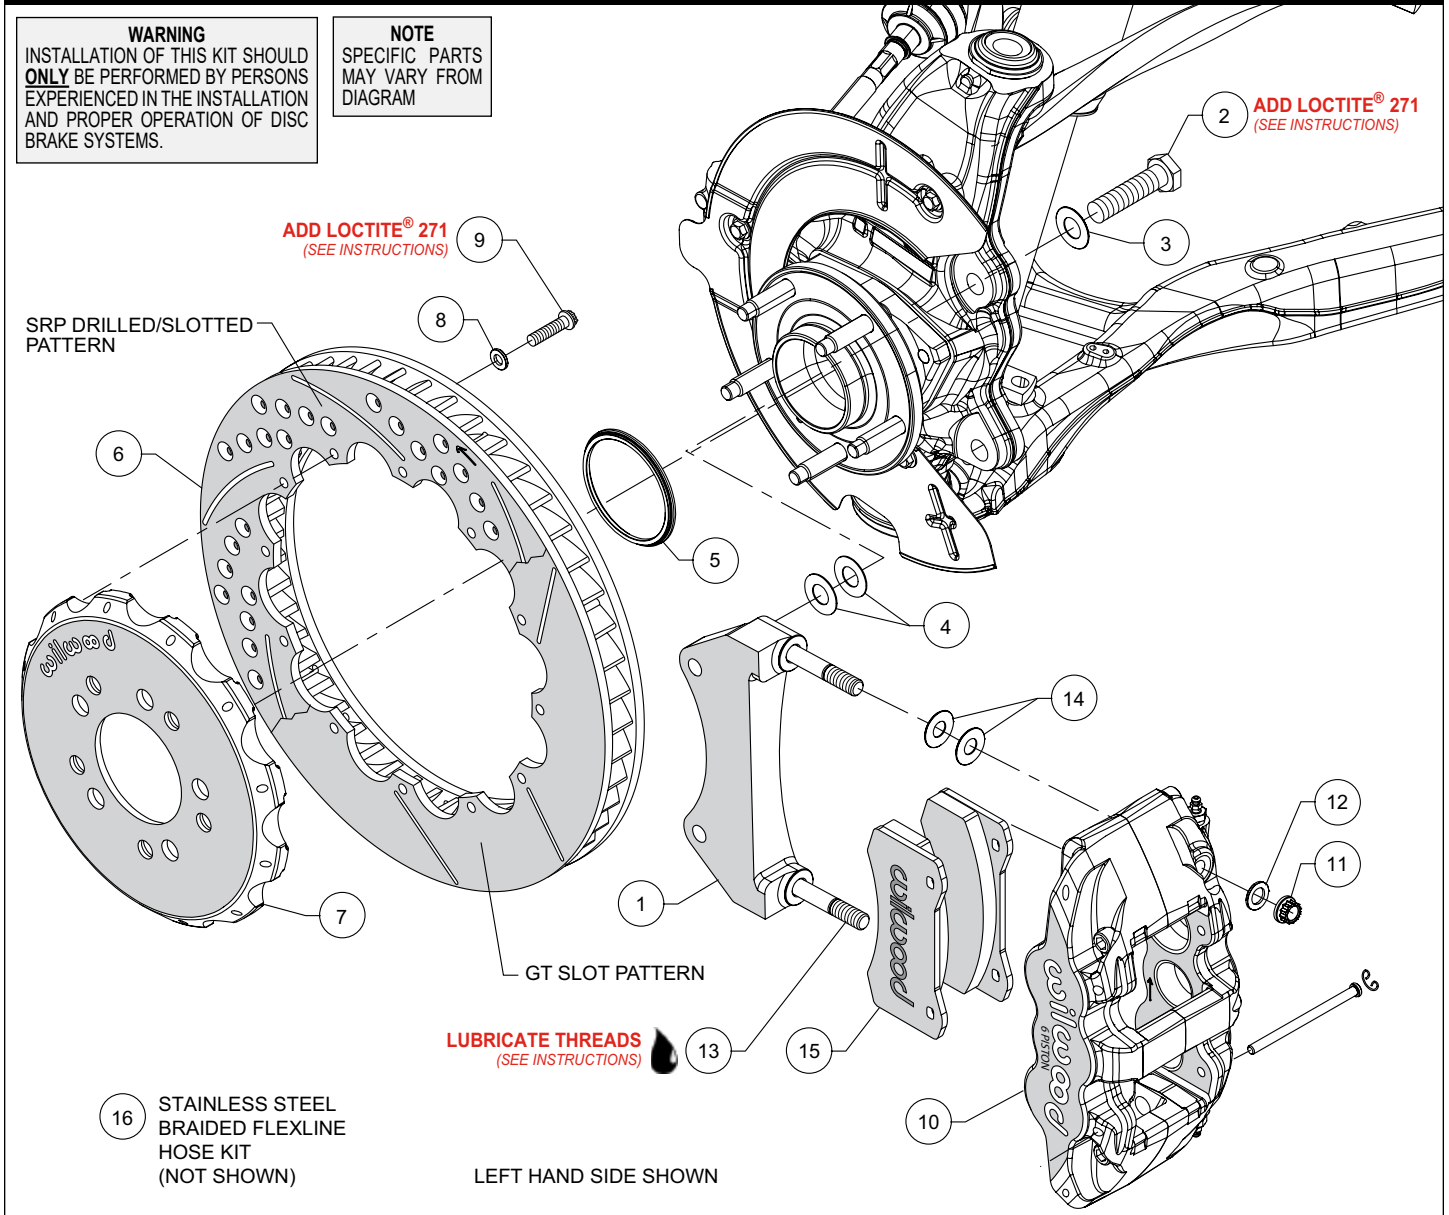
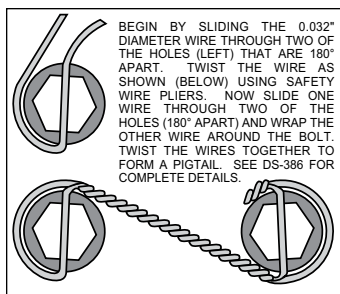

Figure 1. Typical Installation Configuration
Figure 3.
**NOTE:** Numbers in parenthesis refer to the parts list and Figure 1 on the preceding pages.
- The caliper mount bracket (1) should initially be installed with clean, dry threads on the mounting bolts. Orient the bracket as shown in Figure 1, and Photo 1 and install using bolts (2) and washers (3). Initially place two .029" thick shims (4) on each bolt between the bracket and upright, Figure 1. Temporarily tighten the mounting bolts. **NOTE:** *The bracket must fit squarely against the mount bosses on the upright.* Inspect for interference from casting irregularities, machining ridges, burrs, etc. Later, after the caliper alignment has been checked, the mount bolts will be secured using red *Loctite*® 271.
- Orient the rotor (6) and the hat (7) as shown in Figure 1 and Photo 2. Attach rotor to hat using bolts (9) and washers (8). Apply red *Loctite*® 271 to the bolt threads and torque to 155 **in-lb** using a criss-cross pattern. For an added measure of security, the bolts may be safety wired using standard 0.032 inch diameter stainless steel safety wire as shown in Figure 3. Please refer to Wilwood's data sheet DS-386 (available at [www.wilwood.com/Pdf/DataSheets/ds386.pdf](http://www.wilwood.com/Pdf/DataSheets/ds386.pdf)) for complete safety wire installation instructions.
- Slide the rotor registration adapter (5) onto the axle register on the axle hub with the smaller O.D. facing outward, Photo 3. Slide the hat/rotor assembly onto the axle hub. **NOTE:** *The hat must fit flush against the axle hub flange or excessive rotor run out may result.* Install three lug nuts (finger tight) to keep the hat/rotor assembly in place while continuing with the installation, Photo 4.
- NOTE:** *This kit contains distinct right and left hand calipers that must be mounted in a specific direction, as described below.* Lubricate the caliper mounting studs (13) with lightweight oil. Initially place two .030" thick shims (14) on each stud as shown
in Figure 1 and Photo 5. Mount the caliper (10) onto the bracket (1) using lock nuts (11) and washers (12), Figure 1. Ensure that the caliper is mounted so that the largest pistons are at the rotor exit end of the caliper, in relation to the direction of rotor rotation. Temporarily tighten the lock nuts and view the rotor through the top opening of the caliper. The rotor should be centered in the caliper, Photo 6. If not, adjust by adding or subtracting shims (4) between the bracket and the upright. Always use the same amount of shims on each of the two mounting bolts. Once the caliper alignment is correct, remove the bracket mounting bolts (2) one at a time, apply red *Loctite*® 271 to the threads, and torque to 77 ft-lb.
- Remove the two pad retaining pins from the caliper (10) by carefully popping out the pin retaining clips and sliding out the pins. Insert the brake pads (15) into the caliper from the bottom, Figure 1 and Photo 7. With the friction material facing the rotor, secure the brake pads in place with the pad retaining pins and clips, Photo 8. Reinstall the caliper onto the caliper mounting bracket and temporarily tighten the lock nuts. Check that the top of the brake pad is flush with the outside diameter of the rotor, Photo 9. If not, adjust by adding or subtracting shims (14) between the caliper and the bracket. After the caliper pad height is set, torque the caliper lock nuts (11) to 47 ft-lb.
- **NOTE:** OEM rubber brake hoses generally cannot be adapted to Wilwood calipers. The caliper inlet fitting is a 1/8-27 NPT (use PTFE tape on pipe threads for proper sealing to caliper). Install Wilwood's stainless steel braided flexline hose kit (16), P/N 220-9100 included with this kit as shown in Photo 10. **Carefully route hoses to prevent contact with moving suspension, brake or wheel components.** **NOTE:** Wilwood hose kits are designed for use in many different vehicle applications and it is the installer's responsibility to properly route and ensure adequate clearance and retention for brake hose components.